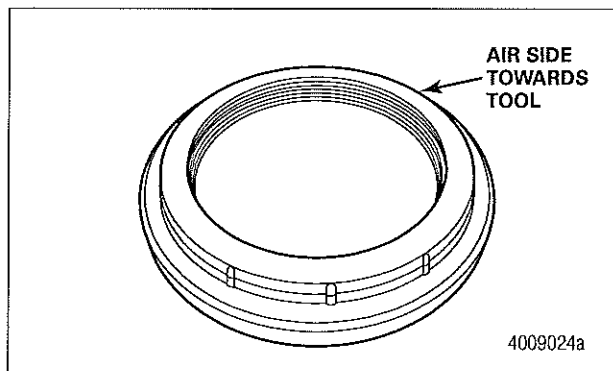

Figure 20
- A. Lubricate the seal according to the following recommendations, then place the seal with the "AIR SIDE" towards the installation tool, Stemco® tool number 551-5412. Figure 20.